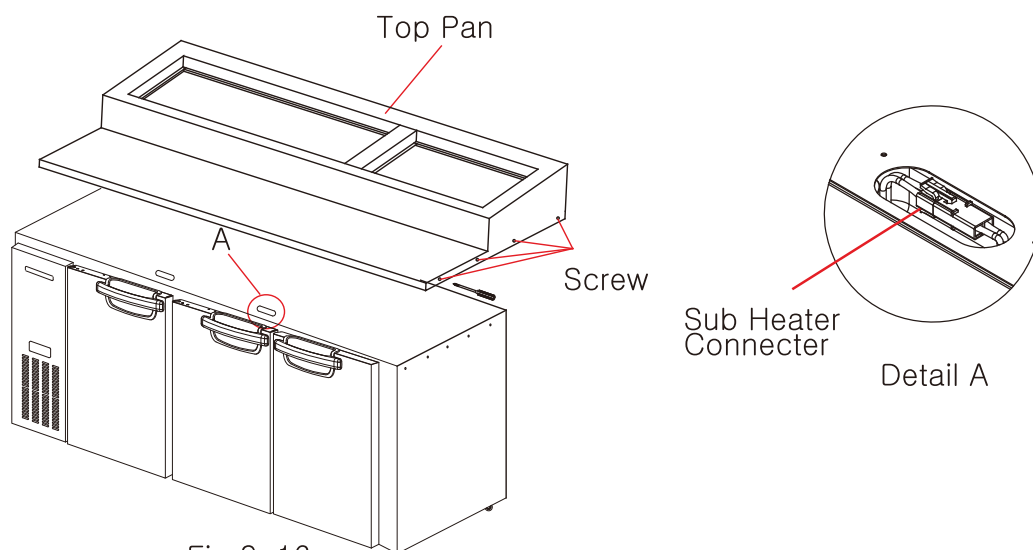

Fig 9-16
1. Locate the door sub-heater by removing the screws of the top pan.(Fig 9-16).